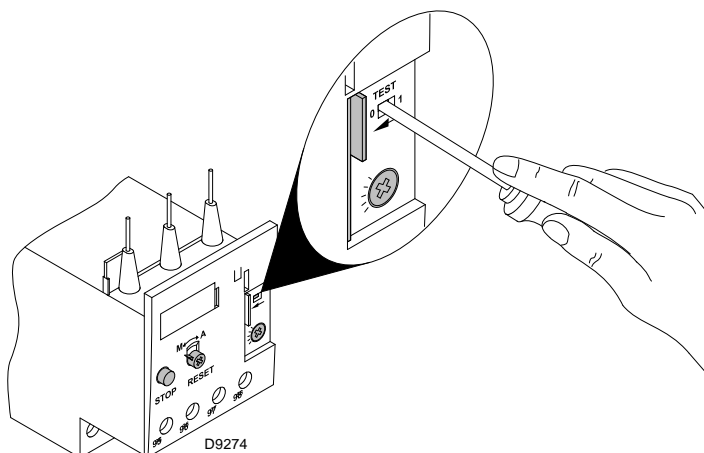

Fig. 18
- To test the thermal relay, insert a screwdriver in the window “TEST” (Fig. 18) and move it in the sense of the arrow (towards right).